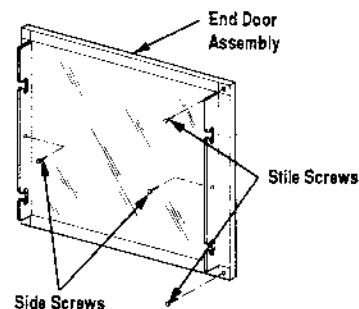

Figure 50
To remove the end panel for glass replacement, remove the two (2) screws from both sides of the end stiles. Lift the entire end panel up and pull away from the fireplace to disengage from the stile pins. Remove the two (2) screws from the end stile, remove the stile and all old glass pieces and slide new glass panel into frame. Reverse this procedure for re-installation of the end panel assembly (Figure 50).